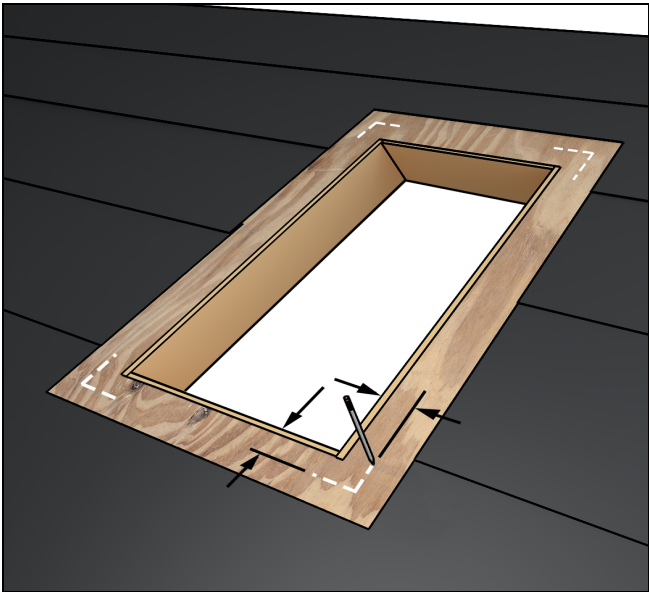

Figure 6
4. Mark skylight corners locations 4" from RO opening. See Figure 6